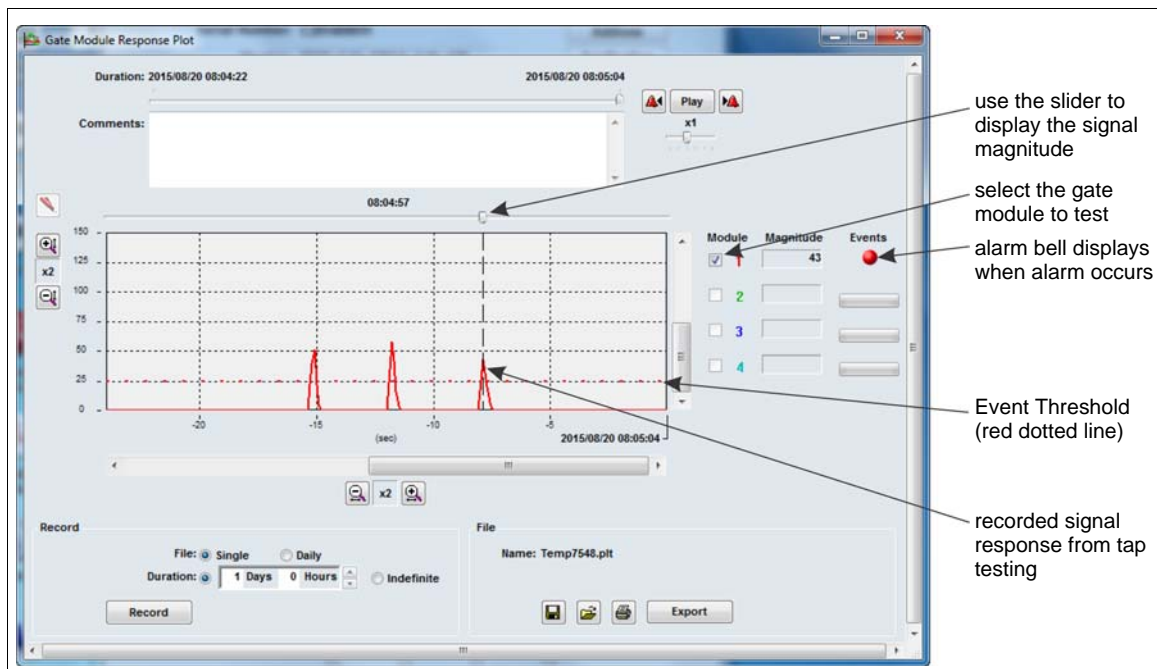

Figure 15: Gate sensor module response plot window
5. Select the Magnitude Response Plot button to open a plot window (see Figure 15).